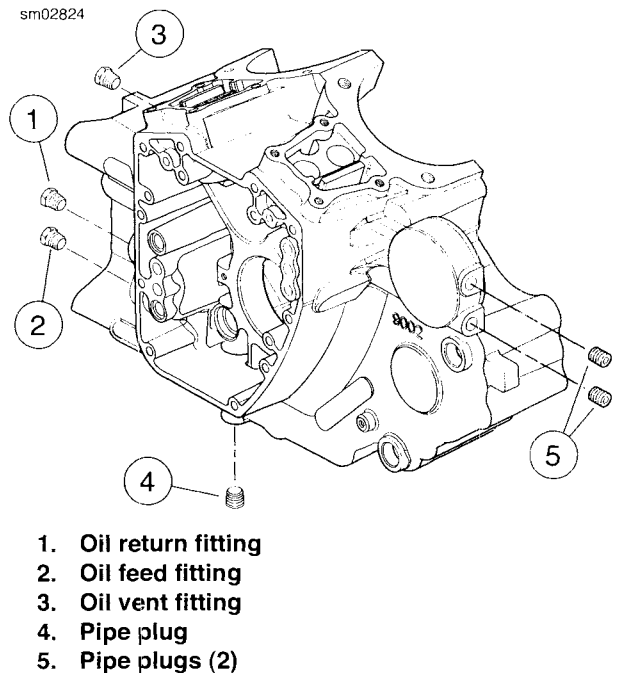

Figure 3-157. Oil Fittings and Pipe Plugs
1. See Figure 3-157. Remove parts.
3. See Figure 3-157. Install parts.